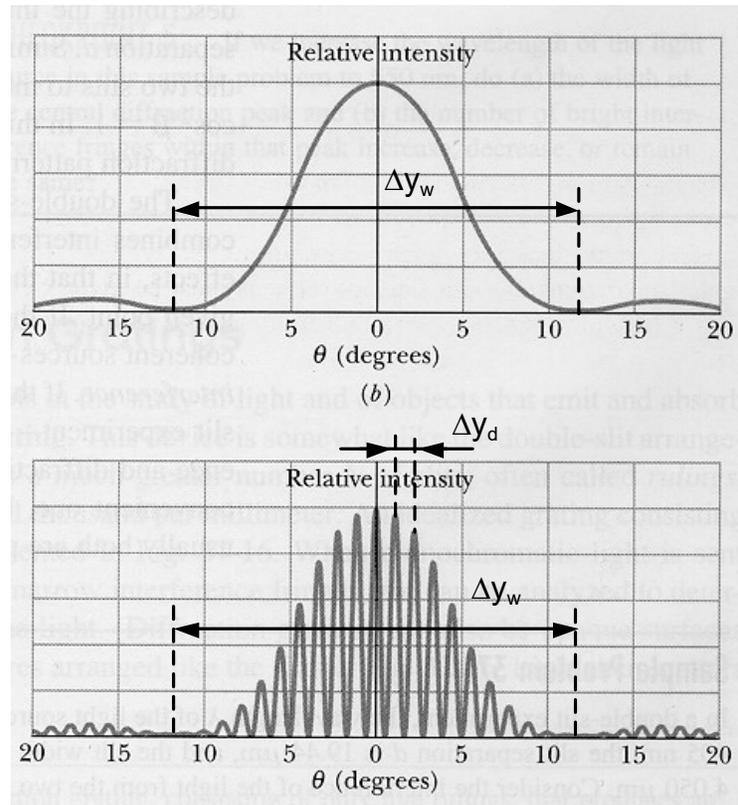

Fig. 1.
Waves passing two slits, each of width w and a distance d apart, display the two-slits interference pattern with the amplitude modulated by the single-slit diffraction pattern. It is a combination of the single-slit pattern and the double-slit pattern. The picture below (Fig. 1.)
- 2.5. Using the $\log(I(y))$ graph measure the distance between the first order diffraction minima Δy_w . Find the measured width w of the single slit. Remember that $\lambda_{red} = 670 \text{ nm}$. If you are not sure how to read Δy_w and Δy_d , then check Fig.1 in the Theory section. What is the percent difference between the measured and the nominal width of the slit? Using the $\log(I(y))$ graph measure the distance between the interference minima Δy_d . Find the measured separation d between the two slits.